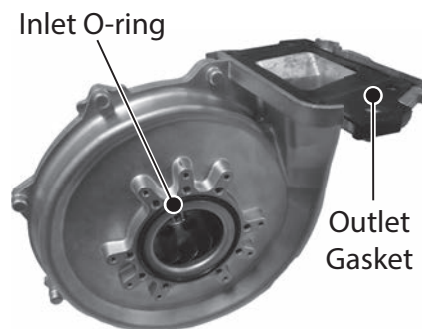

Figure 91 - Install inlet O-ring and outlet gasket to new fan assembly
- 14** Remove the four (4) screws and separate the venturi assembly from the old fan. Set the old fan aside as an orientation reference.
- 15** Locate the new fan, outlet gasket, and inlet O-ring provided in kit. Install outlet gasket and inlet O-ring to fan (see Figure 91). Once installed, make sure the outlet gasket and inlet O-ring are fully seated and not damaged.